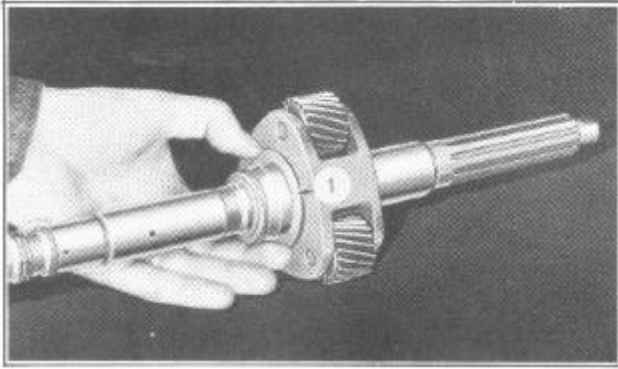

FIGURE 108
20. Remove the rear planet carrier front thrust washer from mainshaft (1), Figure 108.